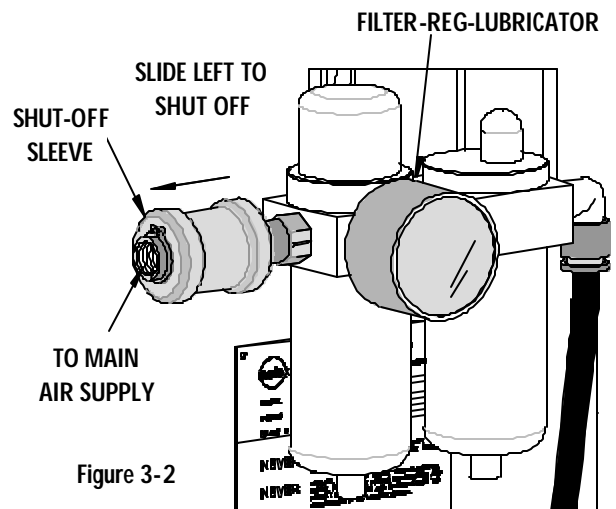

Figure 3-2
9. Disconnect the air supply from the filter-regulator-lubricator supplied with the press, by sliding the shutoff valve sleeve to the left, as shown in Figure 3-2. Remove
Note: When not using an air feed applicator always shutoff the air supply to the filter-regulator-lubricator by sliding the shutoff valve sleeve to the left, the opposite direction of the airflow, as shown in Figure 3-2.